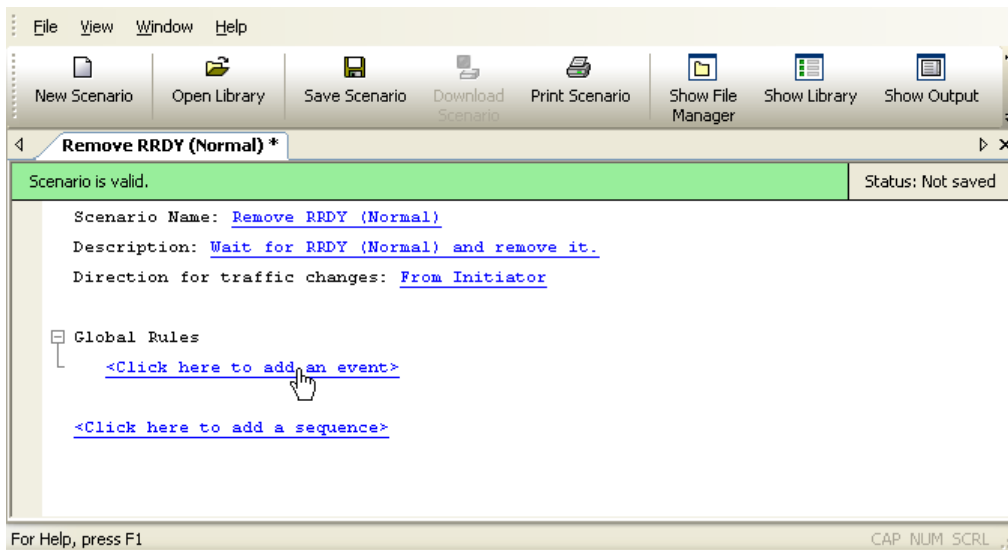

Figure 5.5 Example 1: Entering an Event
- Step 2 In the Global Rules area, click on the prompt to **add an event** (Figure 5.5).